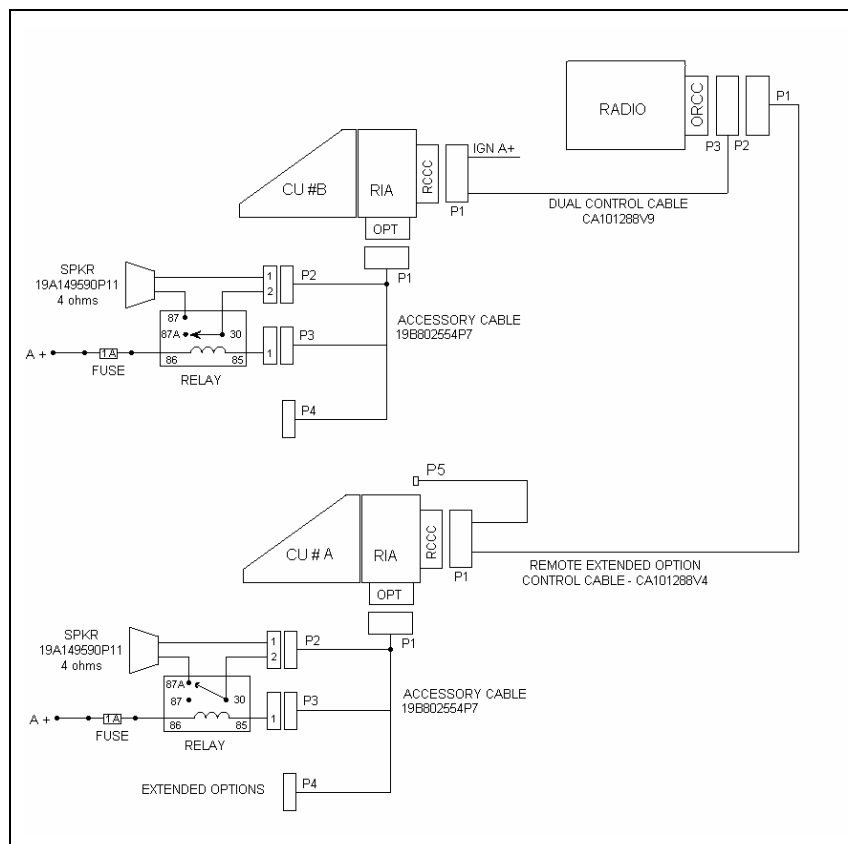

Figure 10-6: M7100^{IP} Dual Control Unit Remote Mount/Remote Mount Installation Configuration
1. Referring to Figure 10-6, run the Remote Control Cable (CA101288V4) between locations for the Radio Unit and Main Control Unit.
- B. Hardwire each speaker directly (without relays) as shown in Figure 10-6.